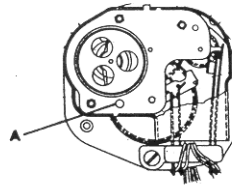

Figure 5. Alignment of parts for assembly.
- (1) Install the bushing (6) with the protruding end of the inner bushing toward the bracket (10) and so the slot fits over the tab of the bracket.
- (2) Rotate the main gear until the round hole lines up with hole "A" in figure 5.
(1) Slip the actuator on the mainshaft, with flat side to surface of maingear, and rotate counterclockwise to the stop on the maingear (See figure 5).
(2) Install contact spring assembly